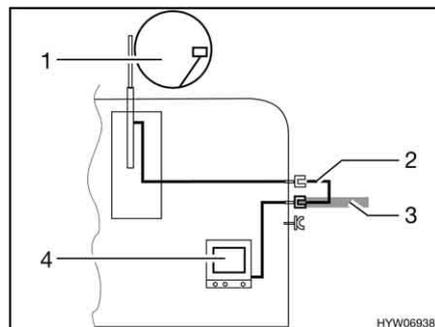

Fig. 177 TV inside the vehicle
- TV inside the vehicle (Fig. 177,4): Connection to roof antenna (Fig. 177,1) with connection cable (Fig. 177,2)
- TV inside the vehicle (Fig. 177,4): Connection to external antenna (Fig. 177,3)